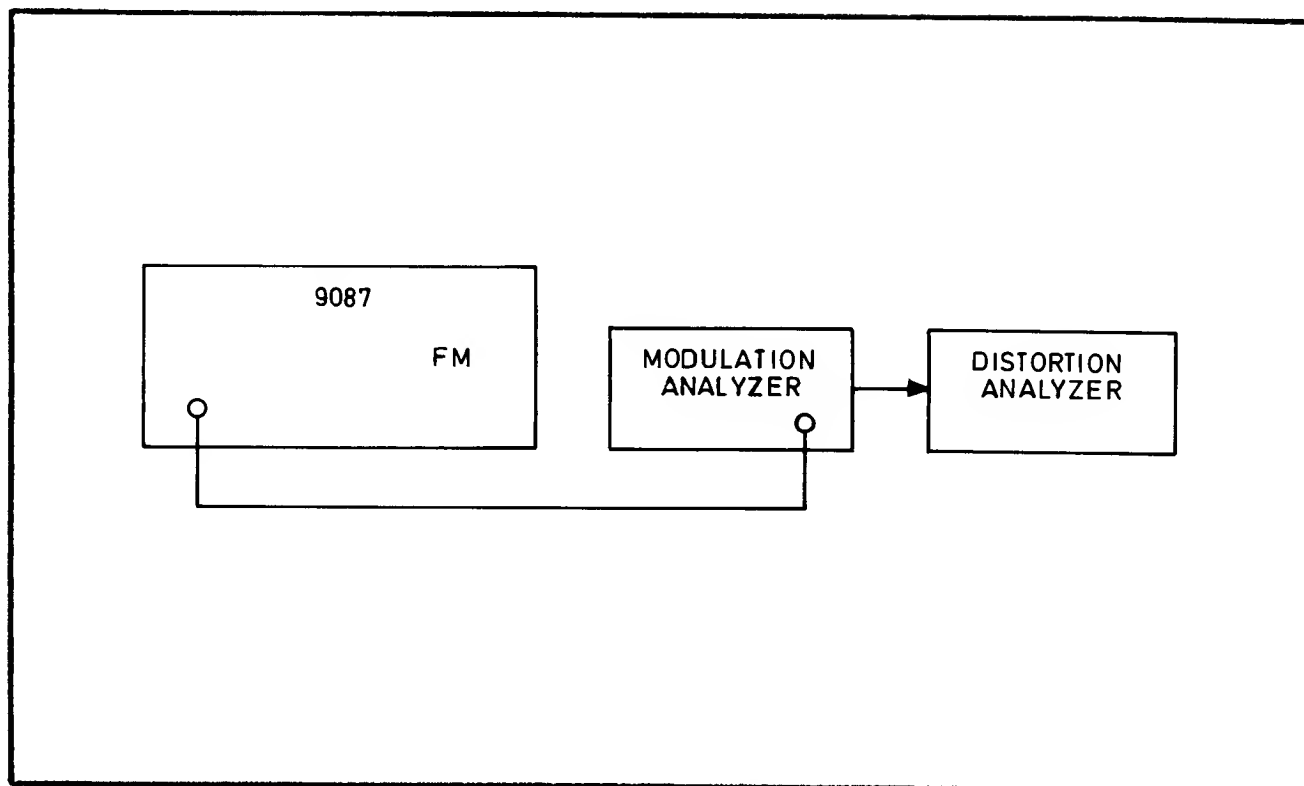

Fig. 7.30 Connections for Internal Frequency Modulation Verification
7.9.3.4.2 Connect the test equipment as shown in Fig. 7.30. Carry out the internal frequency modulation verification in accordance with the instructions given in paragraph 7.9.2.5.3.